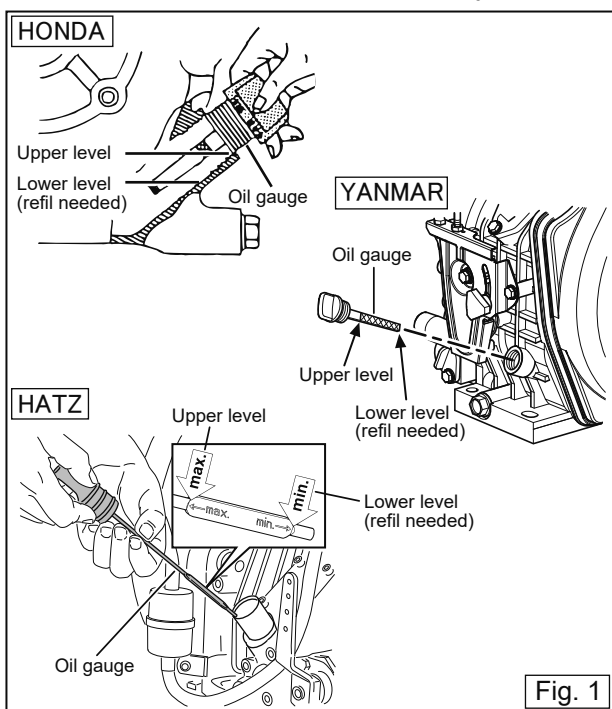

Fig. 1
- Check the oil level. If the oil level is low, fill oil. (Fig.1)